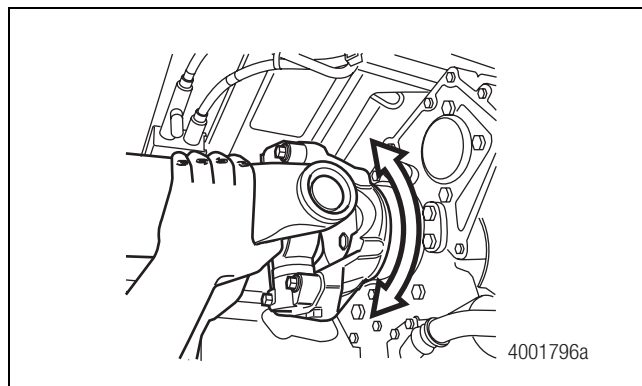

Figure 4.6
- B. Move the end yoke UP-AND-DOWN and SIDE-TO-SIDE. There shouldn't be any movement where the yoke connects to the input and output shafts. Figure 4.6.
- **If the input and output end yokes are not loose, check that the transmission output shaft and axle input shaft splines aren't loose at the end yoke:** Hold the yoke with one hand and rotate it LEFT-TO-RIGHT while you check end play for radial looseness. Figure 4.6.